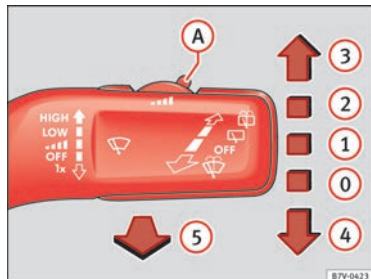

Fig. 66 Using the windscreen wipers
- Press the windscreen wiper lever downwards briefly ⇒ Fig. 66 ④.